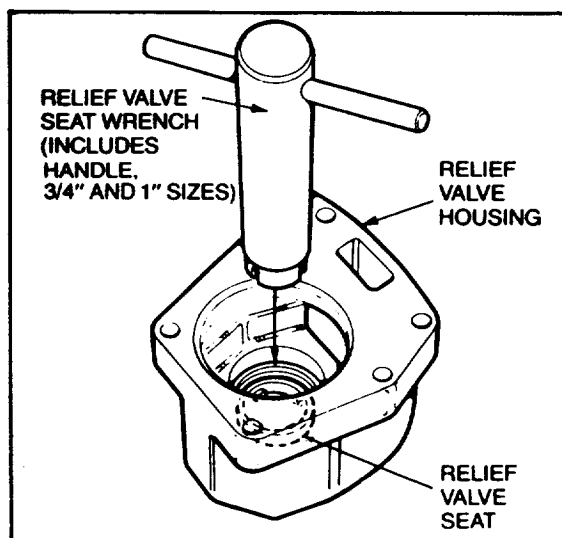

Figure 9A. RELIEF VALVE SEAT
6. To remove seat, insert wrench and turn counterclockwise. (See Fig. 9A, 9B).